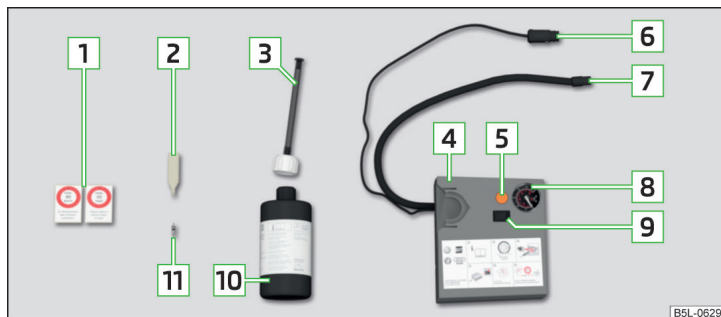

Fig. 200 Principle sketch: Components of the breakdown kit
Components of the breakdown kit » Fig. 200
- Stick the sticker 1 » Fig. 200 on page 214 on the dashboard in the driver's field of view.
- Forcefully shake the tyre inflator bottle  » Fig. 200 on page 214 back and forth several times.
- Screw the air compressor tyre inflation hose  » Fig. 200 on page 214 firmly onto the tyre valve.